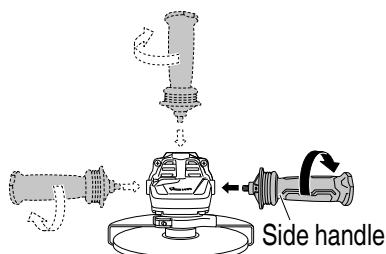

Fig. 10
1. Hold the grinder firmly by its handle and side handle (**Fig. 10**).